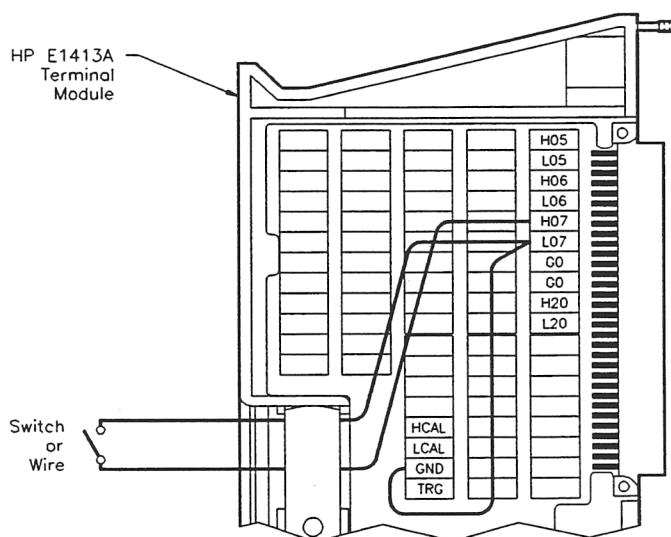

Figure 2-2. Open Transducer Detection Connections
- Set up the equipment as shown in Figure 2-2 (Connections are shown for channel 07 - modify as required)